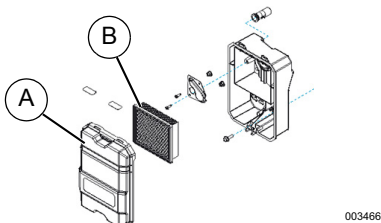

Figure 4-3. Air Filter Assembly
1. See Figure 4-3. Remove air filter cover (A) and filter (B).